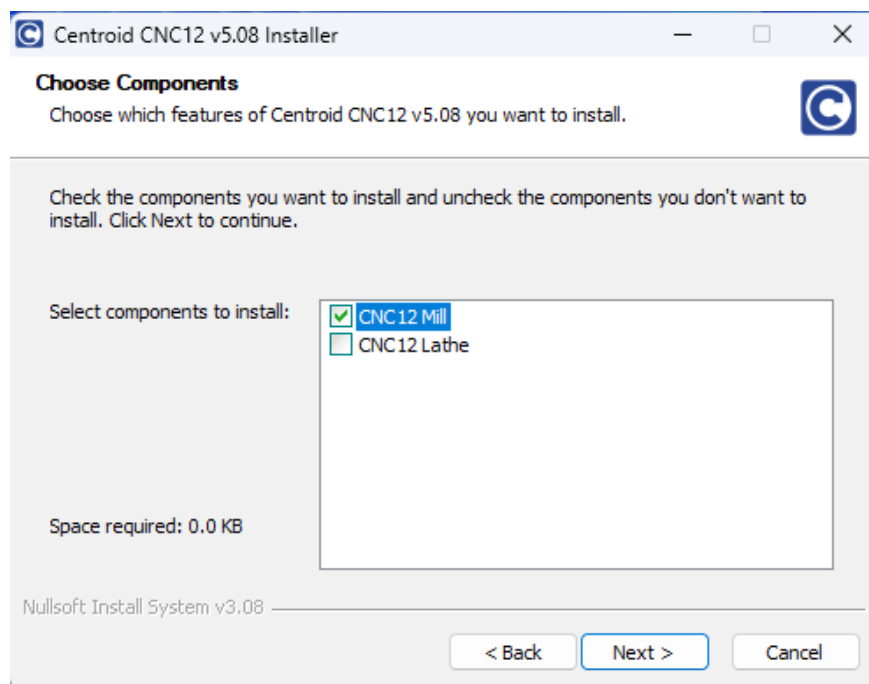

Figure 3.2.5
9. Select **CNC12 Mill** for a Mill installation as shown in Figure 3.2.5.